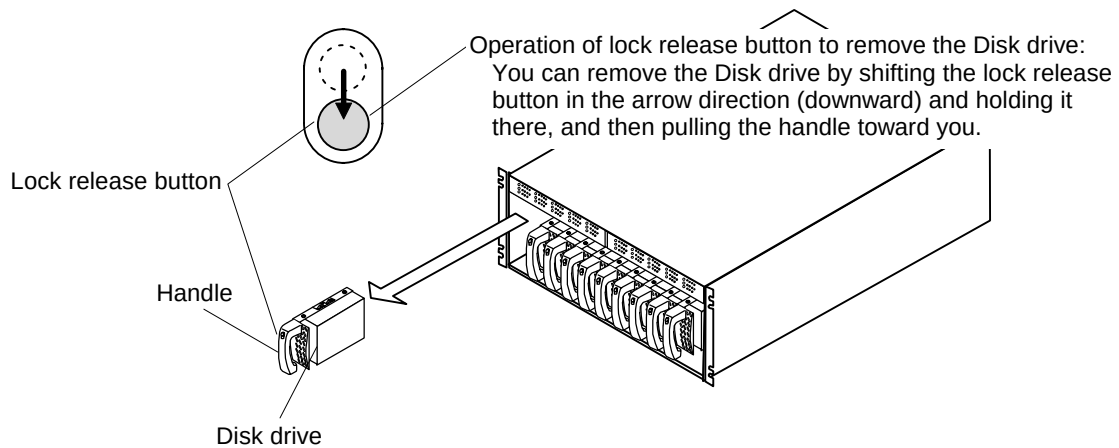

Figure 7.5.8 Remove the Disk Drive
- (a) Remove the Disk drive to be removed by operating the lock release button taking care not to apply any shock to it (see Figure 7.5.8).